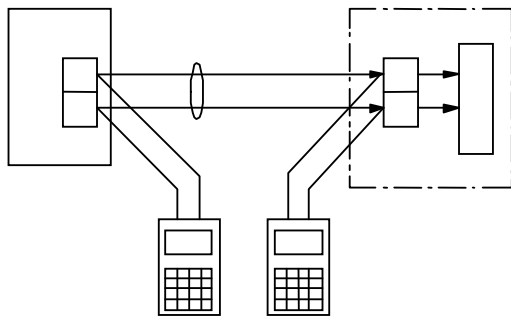

Figure 11. Wiring for communication function
- 2) The AF900's cable lead can be connected to the LQ510 anywhere along the current output line. For example, the cable lead may be connected to the signal terminals on the receiving side in the control room. See Figure 11.